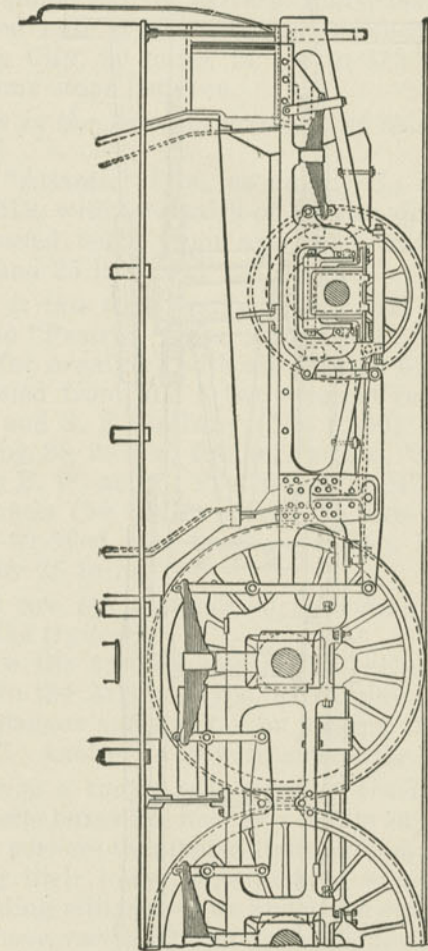

Fig. 250. Trailer Truck Elevation
Q. What class of running gear is required under boilers such as are shown in Fig. 250?